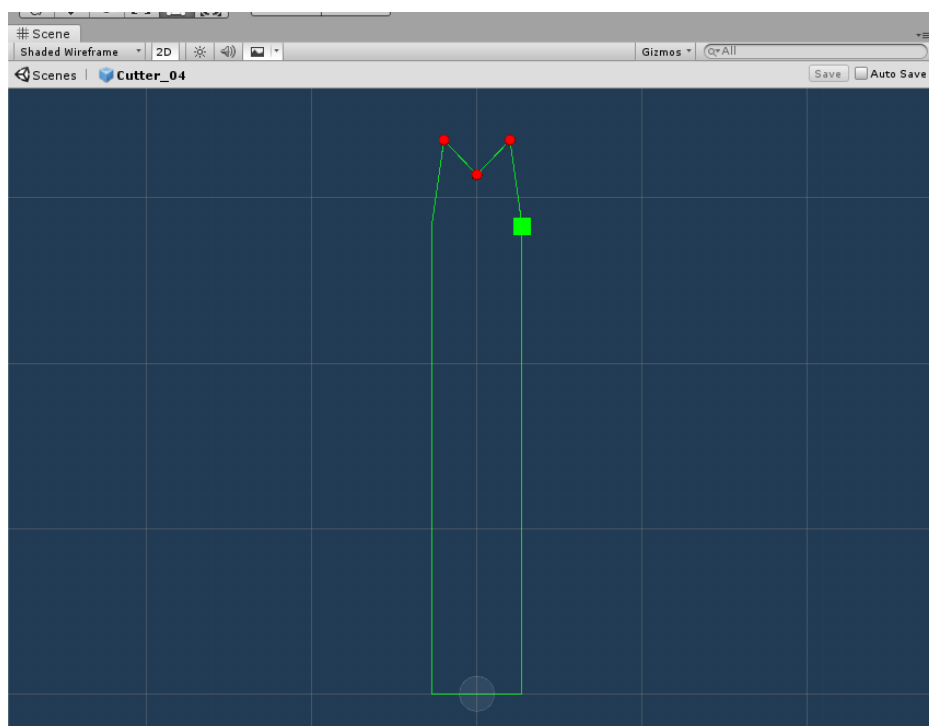

Figure 4
3. Size – Chisel blade size (figure 4).
The size of the chisel blade can be changed in the “Scene” window by holding the mouse onto the green square (top right), drag it and change the “Size” parameter (figure 4).